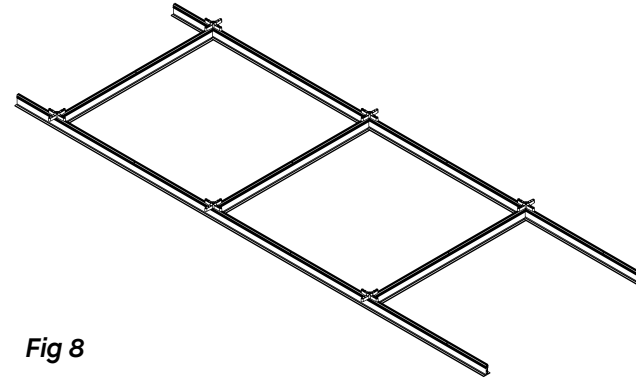

Fig 8
3.3 Insert X-Bracket (DMXB) at every intersection of main beam and cross tee. The DMXB is secured to the main beam and cross tee using the provided 1/4"-20 screws (**Fig 8**). Screws must be fully seated but not over-torqued (maximum 100 in-lb), to prevent thread damage.